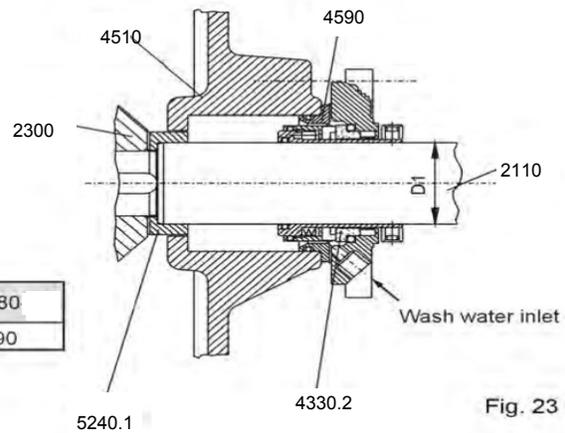

Fig. 23
6.2.3 Cartridge single mechanical seal with wash water(Fig.23):
6.2.5 Gland packing (STB)(Fig. 23):